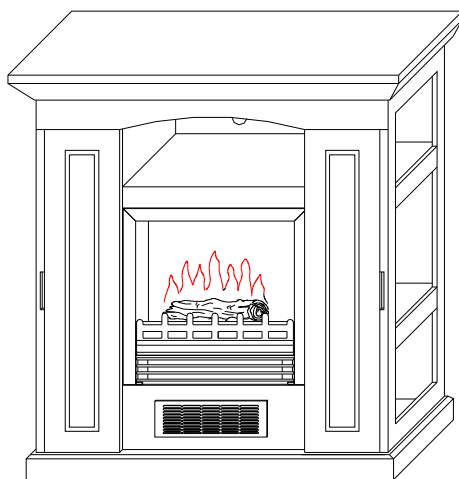

**Fig. 13**
Step 10: Place the Heater Insert into the back of the assembled mantel. Secure into place using 8 Small Mounting Screws (4). See Fig.13&14.